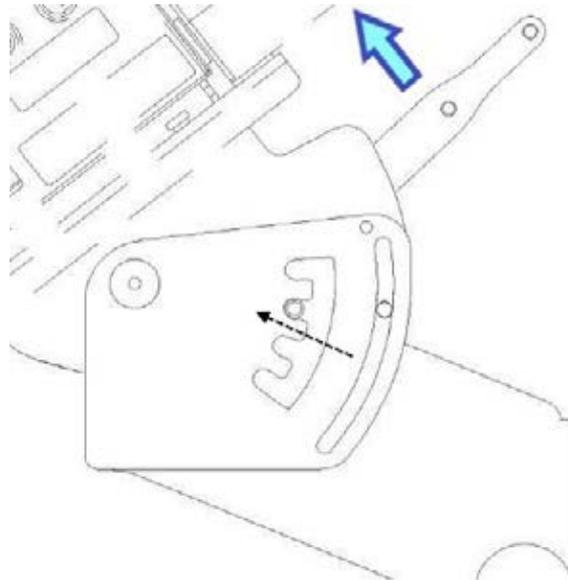

Figure 11 Engage Dispenser Head
3. Adjust the **Dispenser** Head Angle Adjuster Handle up or down to desired angle (refer to Figure 11).